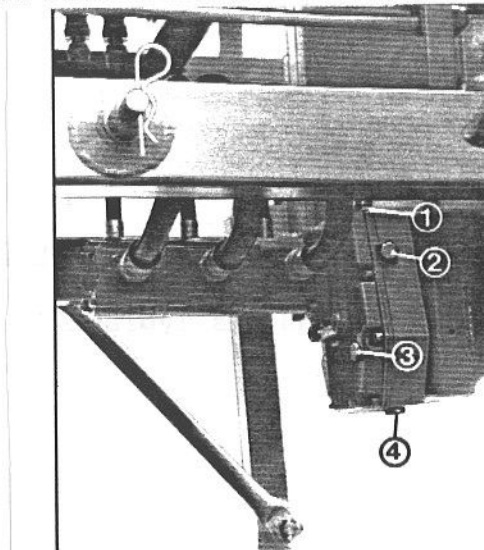

Fig. 6:
6. Fit PTO Shaft and connect securing chains on the free end (Fig. 6). Make sure the shaft is free to move! Do not use securing chain to support PTO shaft!